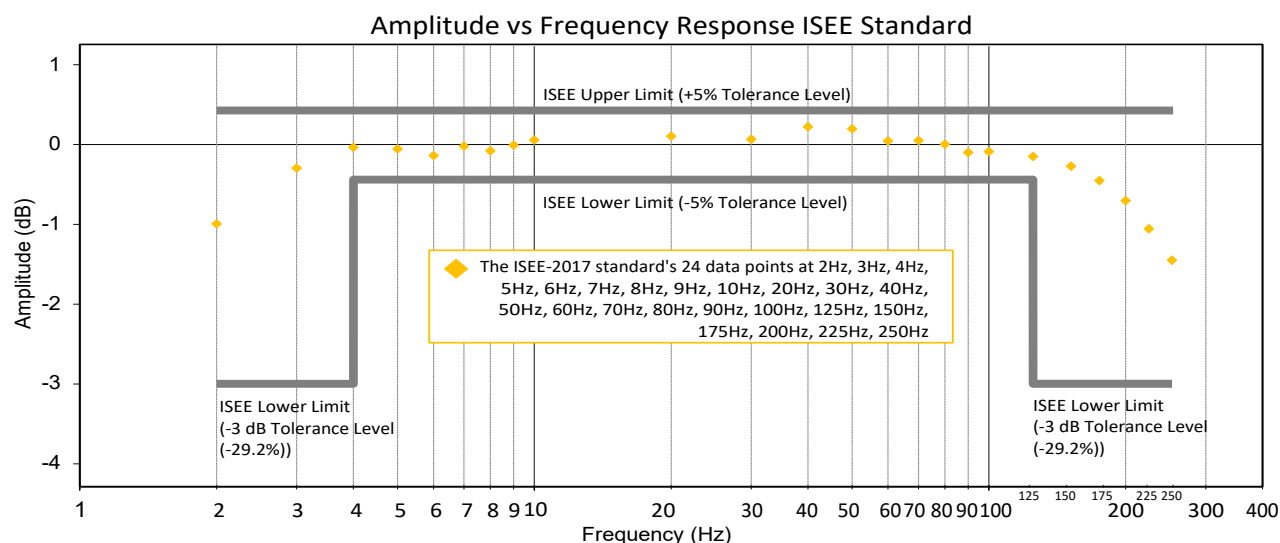

Figure 2. Example of an amplitude vs frequency response with 24 calibration data points according to the ISEE-2017 standard.
Both ISEE's tabular and graphical requirements are limited in scope. Eight (8) tabular data points (see Figure 1) and twenty-four (24) graphical data points (see Figure 2) are the minimum to meet the specification. An actual vibration event is comprised of a complex set of frequencies and amplitudes that may interfere and generate spikes that are not detectable using such a limited range of discrete reference points (see Figure 4).